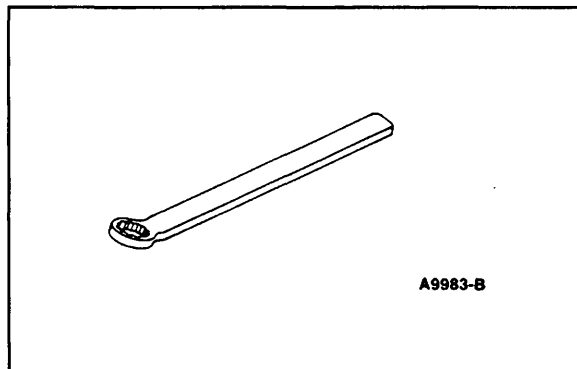

Figure 3 T86T-9000-C Injection Pump
2. Break torque (keeping nuts snug) on three nuts attaching injection pump to pump mounting adapter using Tool T86T-9000-C or equivalent (Fig. 3).